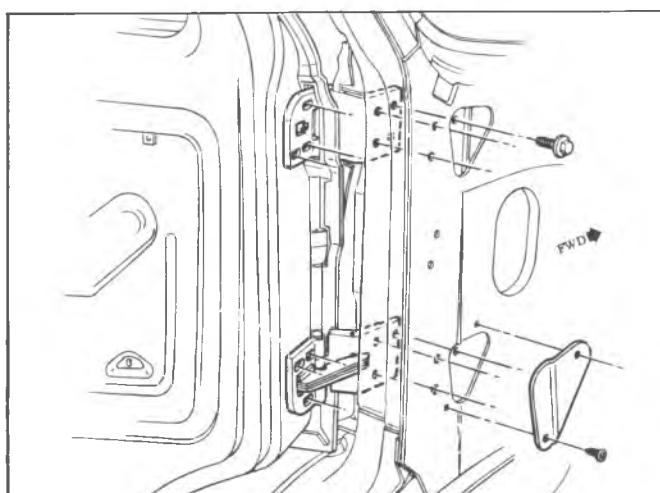

Fig. 12G—Door Hinge
possible. Alignment adjustments can be made by loosening the proper hinge bolts, aligning door to proper position, and tightening bolts securely. See figure 12G, for typical adjustments.
- Remove hinge screws from both body and from door and remove hinge. See figure 12G.